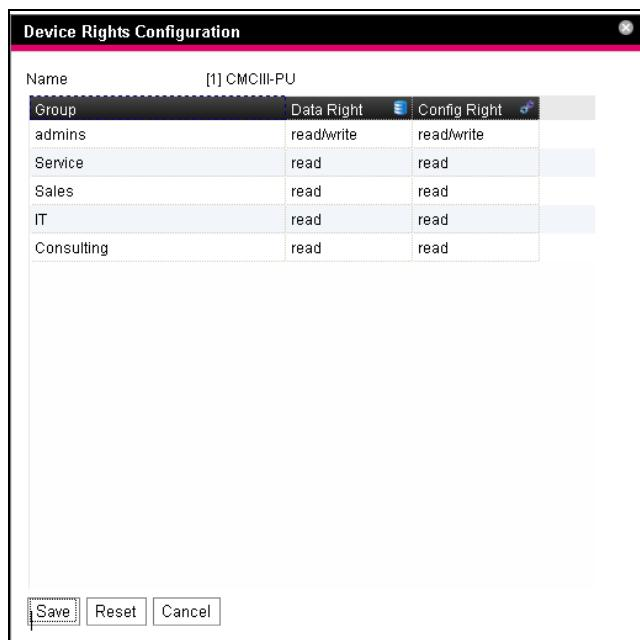

Fig. 42: "Device Rights Configuration" dialogue
- The "Device Rights Configuration" dialogue opens (fig. 42).
The associated icons are displayed when a sensor is selected on the **Configuration** tab in the navigation area and this expanded down to the lowest level and also in the "Device Rights Configuration" dialogue (fig. 42, item 1). The icons emphasise the assignment to the "Data" and "Config" data types.